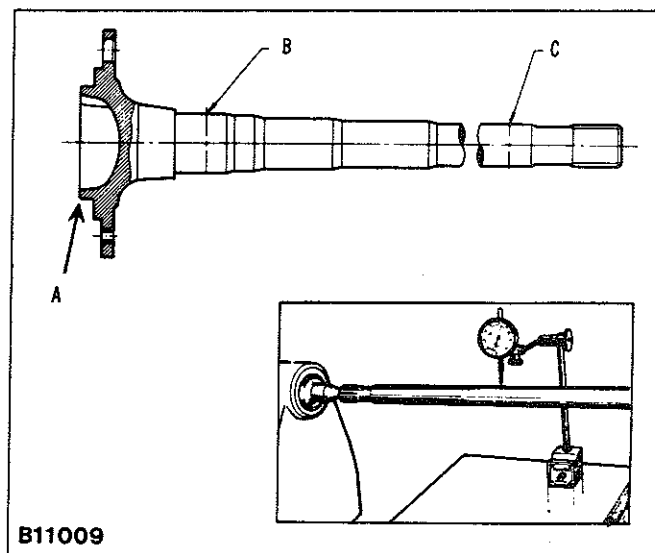

Fig. 4—Checking axle shaft for bend
(1) Check the axle shaft for bend, the splines and seal lip sliding area for wear and cracks. Replace the shaft if defective.
(2) To check the axle shaft for bend, support the shaft between centres and measure the axle shaft flange squareness at A, axle shaft concentricity at B, and axle shaft concentricity at C, refer Fig. 4.
(3) Check the axle shaft bearing for noise and axial or radial play, if the play exceeds the specified amount, the bearing must be replaced.
(4) Check the wheel hub bolts for looseness and the outer bearing retainer for deformation. Check the gaskets and shims for damage, replace any defective parts.